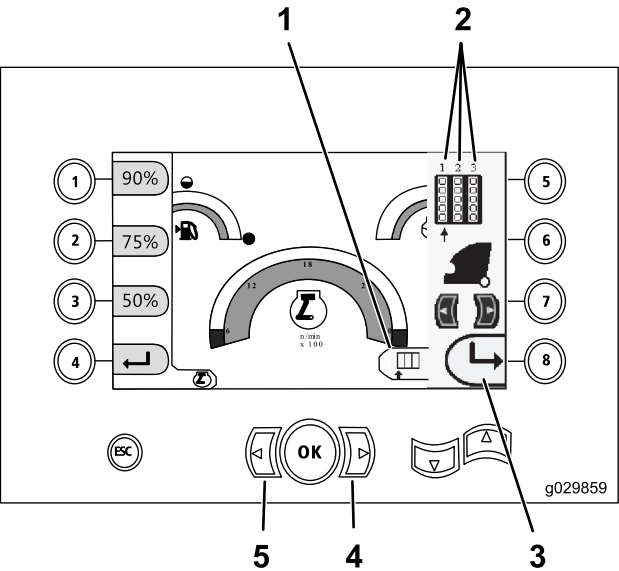

Figure 25
Note: The icon for button 8 is only for software versions K and up (Figure 25).
1. Press the right or left arrow to select the row number to the row you want to access (Figure 25).
2. After placing the arrow beneath the row number you want to access, press the 8 button (Figure 25) to hide the side window.